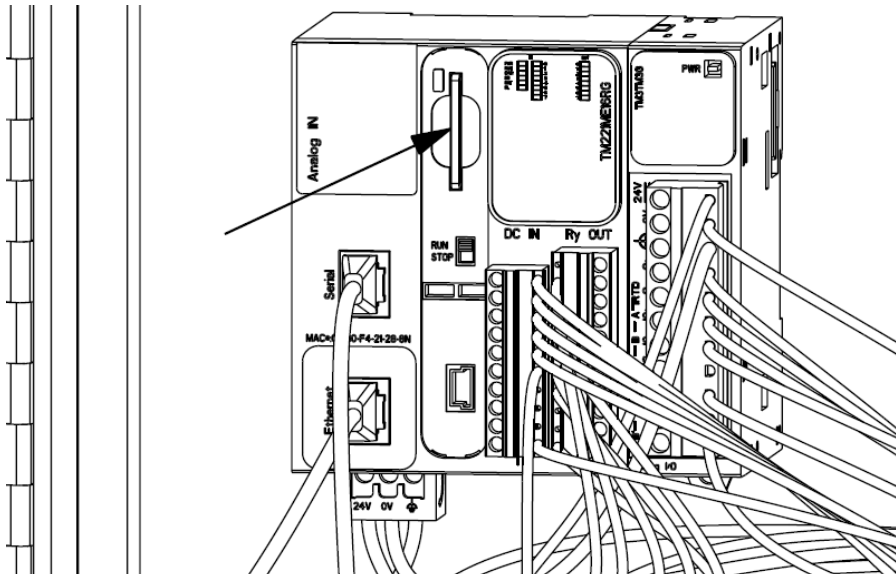

Figure 7-25: Insertion of SD card
- d. Insert the SD card with the PLC program update into the PLC's port, it should click into place when fully inserted. Reference **Figure 7-25**.